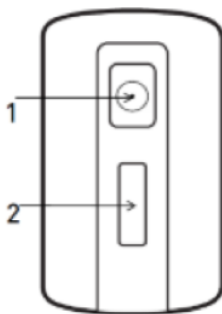

Figure 1 - Pushbutton and display
On the front side the device features a pushbutton (1) for switching on / off and for starting a recording, and a display (2) for the indication of operating modes and error codes. The pushbutton is marked with the symbol  (Figure 1).